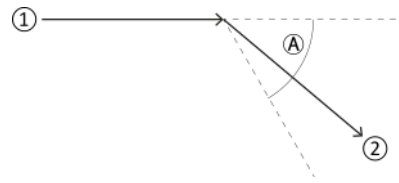

Figure 11.3: Joint type: Normal joint
Legend of figure 11.3 on page 167 : (1) Pre-joint line, (2) Post-joint line, (A) Min angle for joint 1